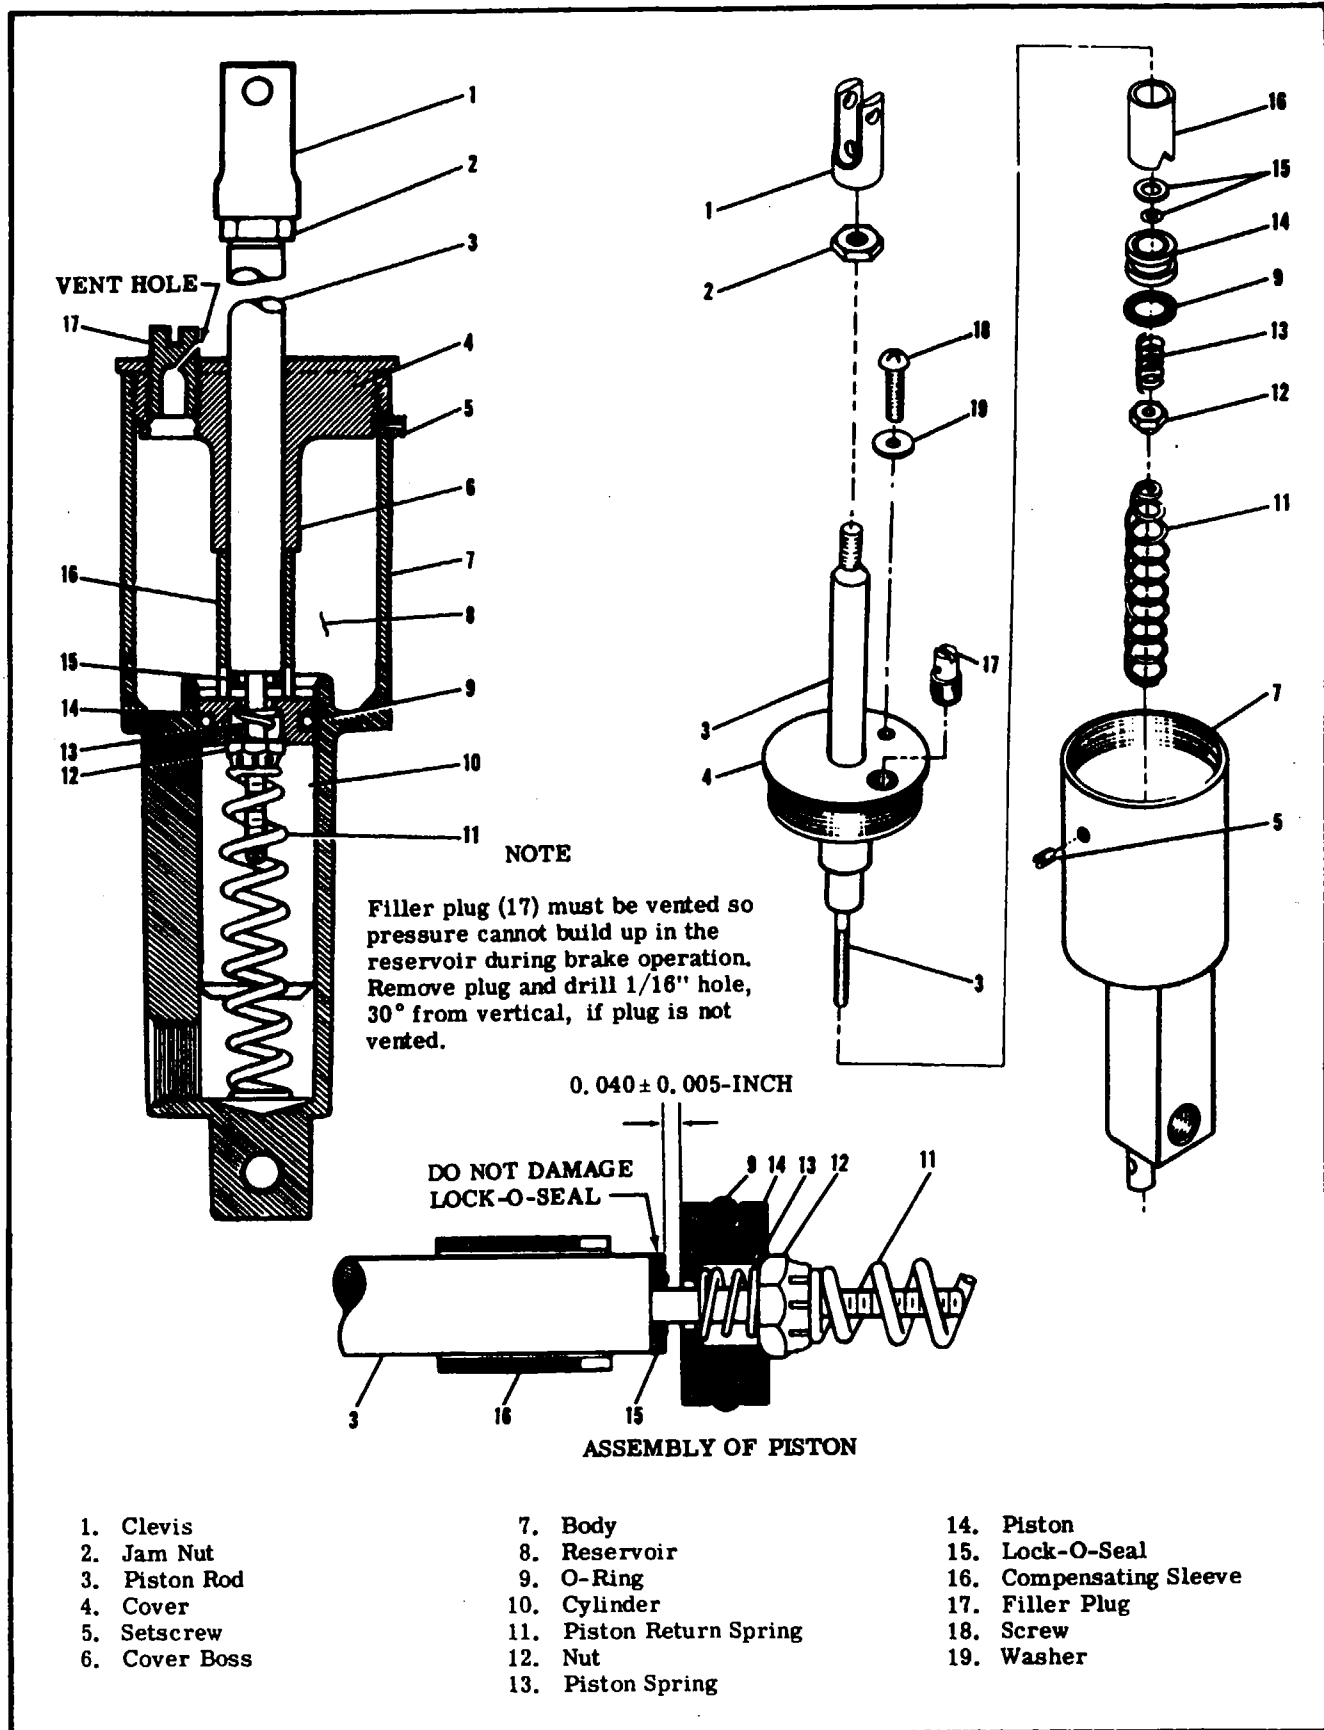

Figure 5-12. Brake Master Cylinder
Insufficient clearance at Lock-O-Seal in master cylinder.	Adjust as shown in figure 5-12.
**5-42. BRAKE MASTER CYLINDER REPAIR.** Figure 5-12 may be used as a guide during disassembly, repair, and re-assembly of the brake master cylinders. Repair of the cylinders is limited to installation of new parts, cleaning, and adjustment. Use clean hydraulic fluid as a lubricant during assembly of the cylinders.